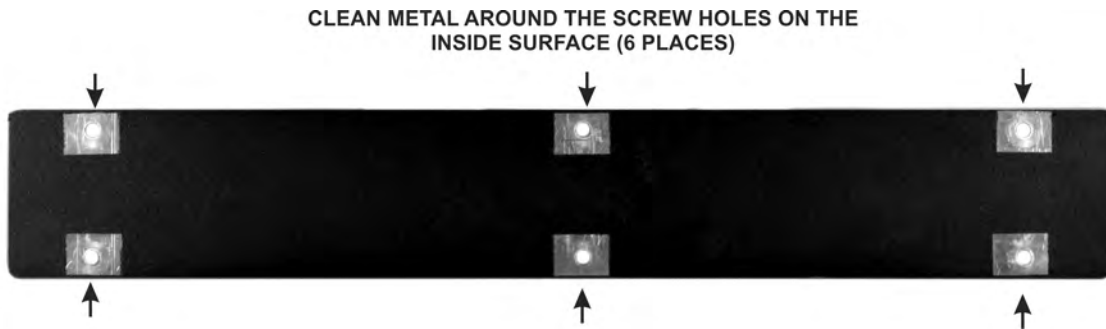

Figure 30. Preparing Side Panels for Installation.
- Locate the side panels and clean any tape or residue from the areas around the screw holes on the inside surface as shown in Figure 30. Check and clean both side panels.